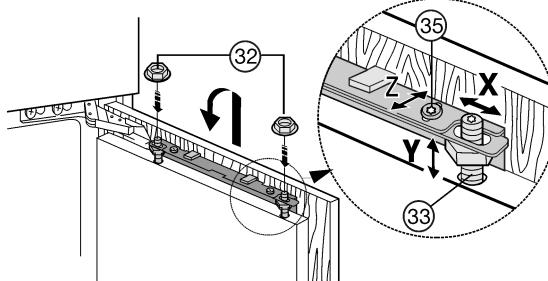

Fig. 21
- ▶ Attach the unit door to the adjusting bolts Fig. 21 (33) and loosely screw the locknuts Fig. 21 (32) onto the adjusting bolts.
- ▶ To align the unit door in height Y and in lateral inclination: Adjust the adjusting bolts Fig. 21 (33) using a screwdriver.
- ▶ Tighten the lock nuts Fig. 21 (32).